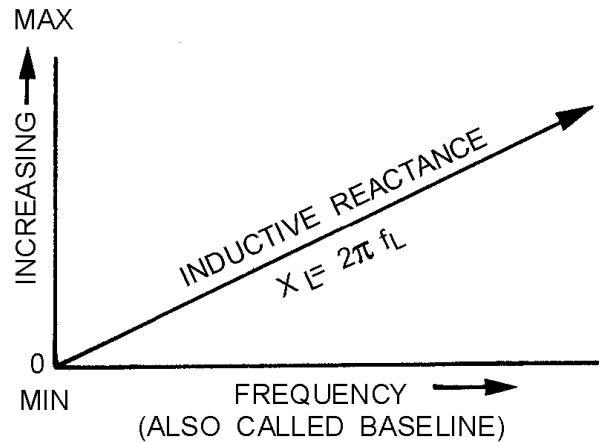
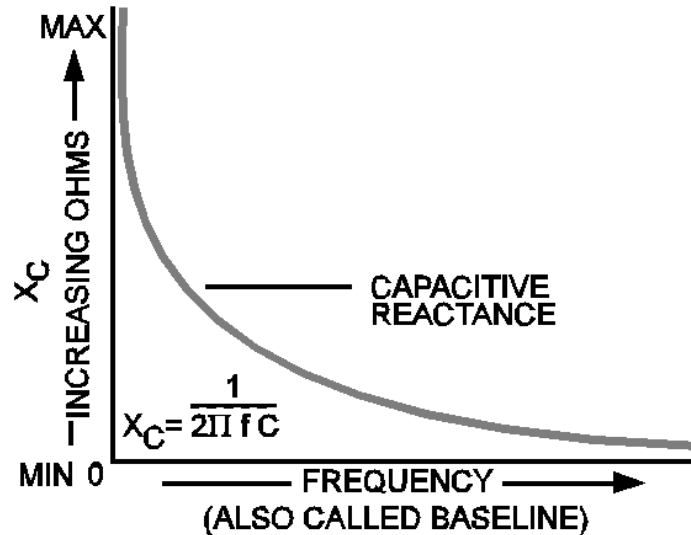
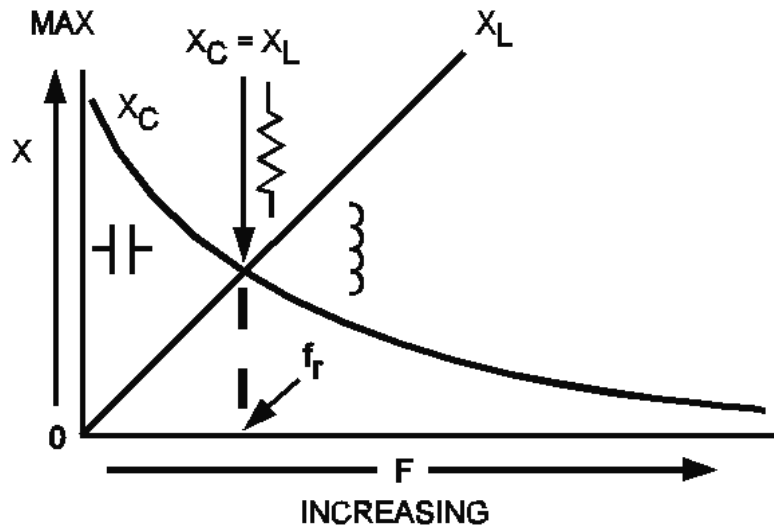

Figure 1-2.—Effect of frequency on inductive reactance.
Figure 1-3.—Effect of frequency on capacitive reactance.
Figure 1-5.—Relationship between X_L and X_C as frequency increases.
As shown in the equation, any increase in frequency, or "f," will cause a corresponding increase of inductive reactance, or " X_L ." Therefore, the **INDUCTIVE REACTANCE VARIES DIRECTLY WITH THE FREQUENCY**. As you can see, the higher the frequency, the greater the inductive reactance; the lower the frequency, the less the inductive reactance for a given inductor. This relationship is illustrated in figure 1-2. Increasing values of X_L are plotted in terms of increasing frequency. Starting at the lower left corner with zero frequency, the inductive reactance is zero. As the frequency is increased (reading to the right), the inductive reactance is shown to increase in direct proportion.
As shown in figure 1-3, the effect of capacitance is opposite to that of inductance. Remember, capacitance causes the current to lead the voltage by 90 degrees, while inductance causes the current to lag the voltage by 90 degrees.
A.c. circuits that contain both an inductor and a capacitor have interesting characteristics because of the opposing effects of L and C. X_L and X_C may be treated as reactors which are 180 degrees out of phase. As shown in figure 1-2, the vector for X_L should be plotted above the baseline; vector for X_C , figure 1-3, should be plotted below the baseline. In a series circuit, the effective reactance, or what is termed the RESULTANT REACTANCE, is the difference between the individual reactances. As an equation, the resultant reactance is:
The universal reactance curves of figures 1-2 and 1-3 are joined in figure 1-5 to show the relative values of X_L and X_C at resonance, below resonance, and above resonance.